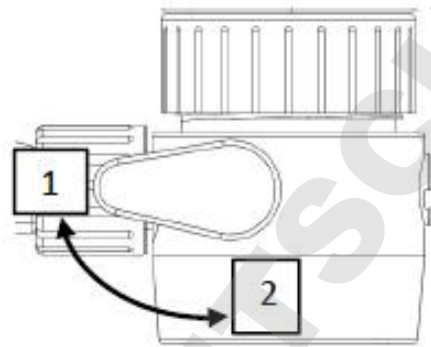

Figure3 Diagram of return valve
Step 1 First of all, as shown in Figure 3, will be rotated to the direction② of the return valve, emptying the liquid in the cylinder body.